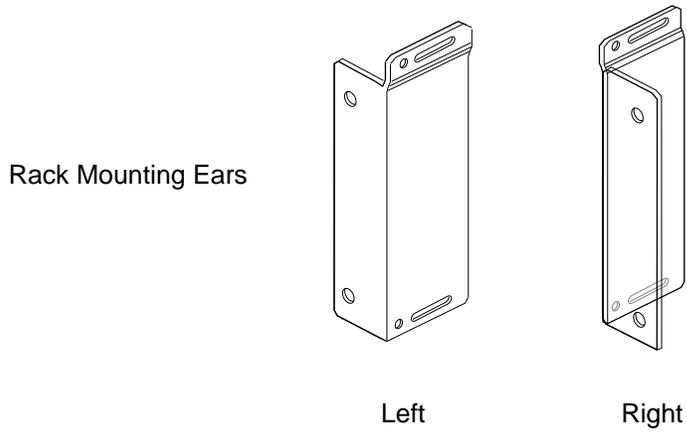

Figure 3-2 Origin200 Rack Mounting Ears
- There are two ears, one for the left side and one for the right side. These are stamped “L” and “R” and are not interchangeable. See Figure 3-2.